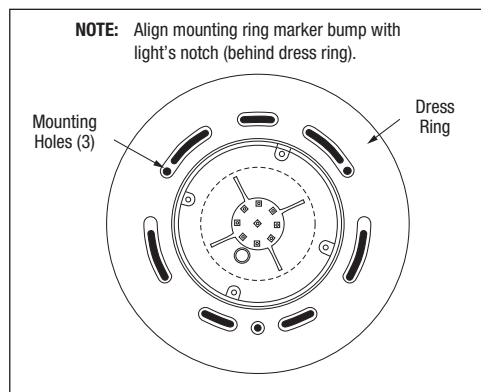

Figure 3. LumiPower Concrete Installation
2. Using the three screws (from kit P/N 13529), attach the light and dress ring to the niche using a manual screw driver. Do not over-tighten, as using power tools may cause damage. Before filling the pool check the light is functioning by switching it on for a few seconds. See *Figure 3*.